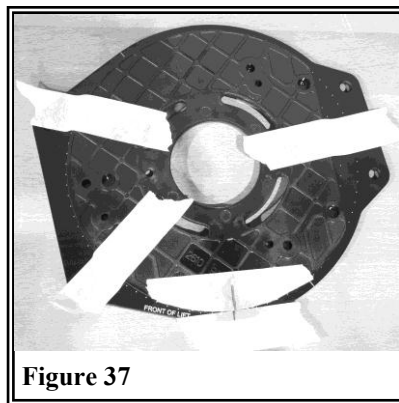

Figure 37
5. Secure the router sub base to the blank plate with masking tape or clamp in this position. (See Figure 37)